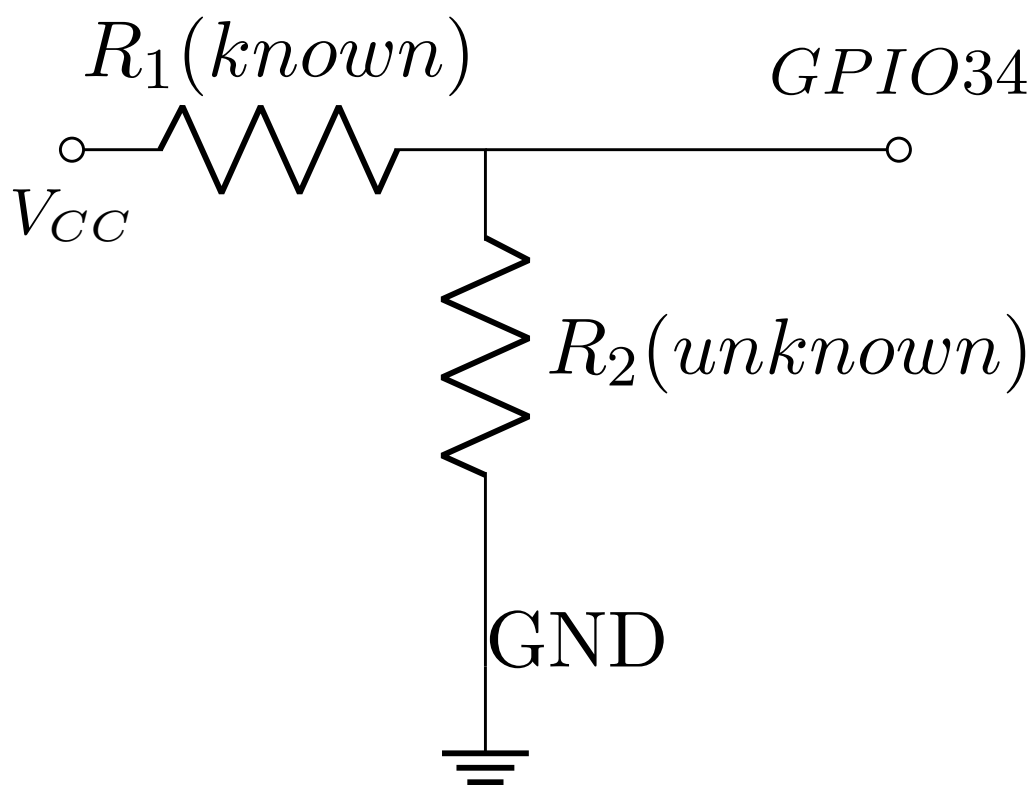

Figure 9.5.3.1: Voltage Divider
- 9.5.4. The Ohm meter in this manual works on the principle of the voltage divider shown in Fig. 9.5.3.1.